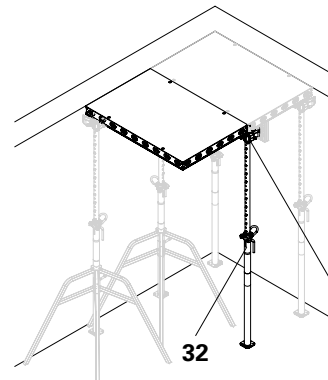

Fig. D2.07
3. Before compensating, hook the DFH prophead (**32**) of the last prop into the DP panel (**10**) using two teeth. Two teeth remain unused for the time being. (Fig. D2.07 + D2.7a)